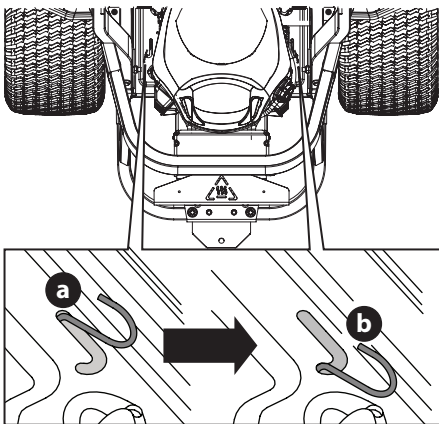

Figure 1
1. To engage the transmission bypass rods, pull the rod back (a) and into lower section of "J" slot. Repeat on opposite side (Figure 1).